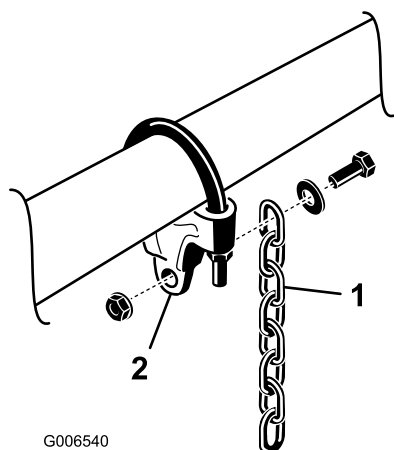

Figure 13
- Mount a lift chain to each chain bracket with a screw, washer and nut, positioning as shown in Figure 13